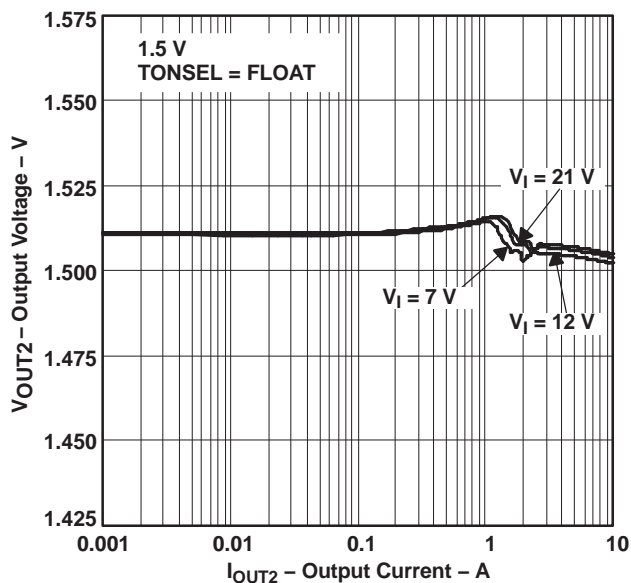
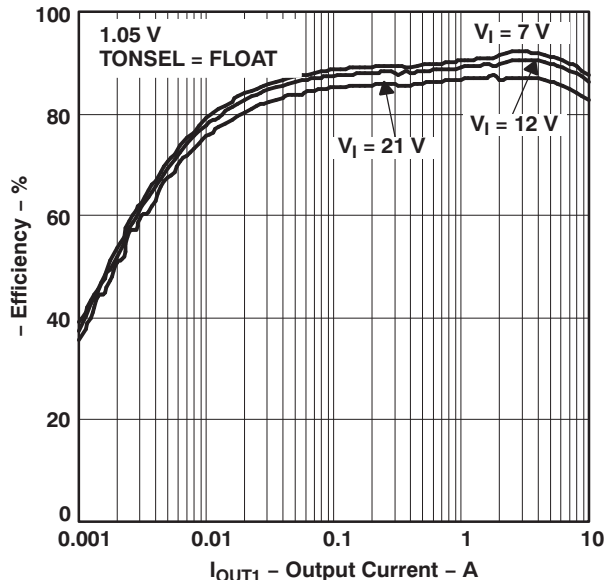

Figure 13. (3)
Figure 16.
(3) The data of Figure 13–Figure 16 are measured from the Typical Application Circuit of Figure 25 and Table 2